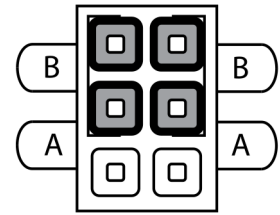

Figure 9: Class B Jumper Setting
- Set the jumper assigned to the loop to the "B" position, as shown in Figure 9.